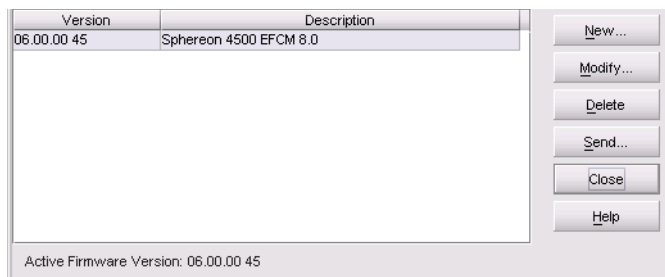

Figure 4-41 Firmware Library Dialog Box
17. Select the *Firmware Library* option from the *Maintenance* menu. The *Firmware Library* dialog box displays (Figure 4-41).